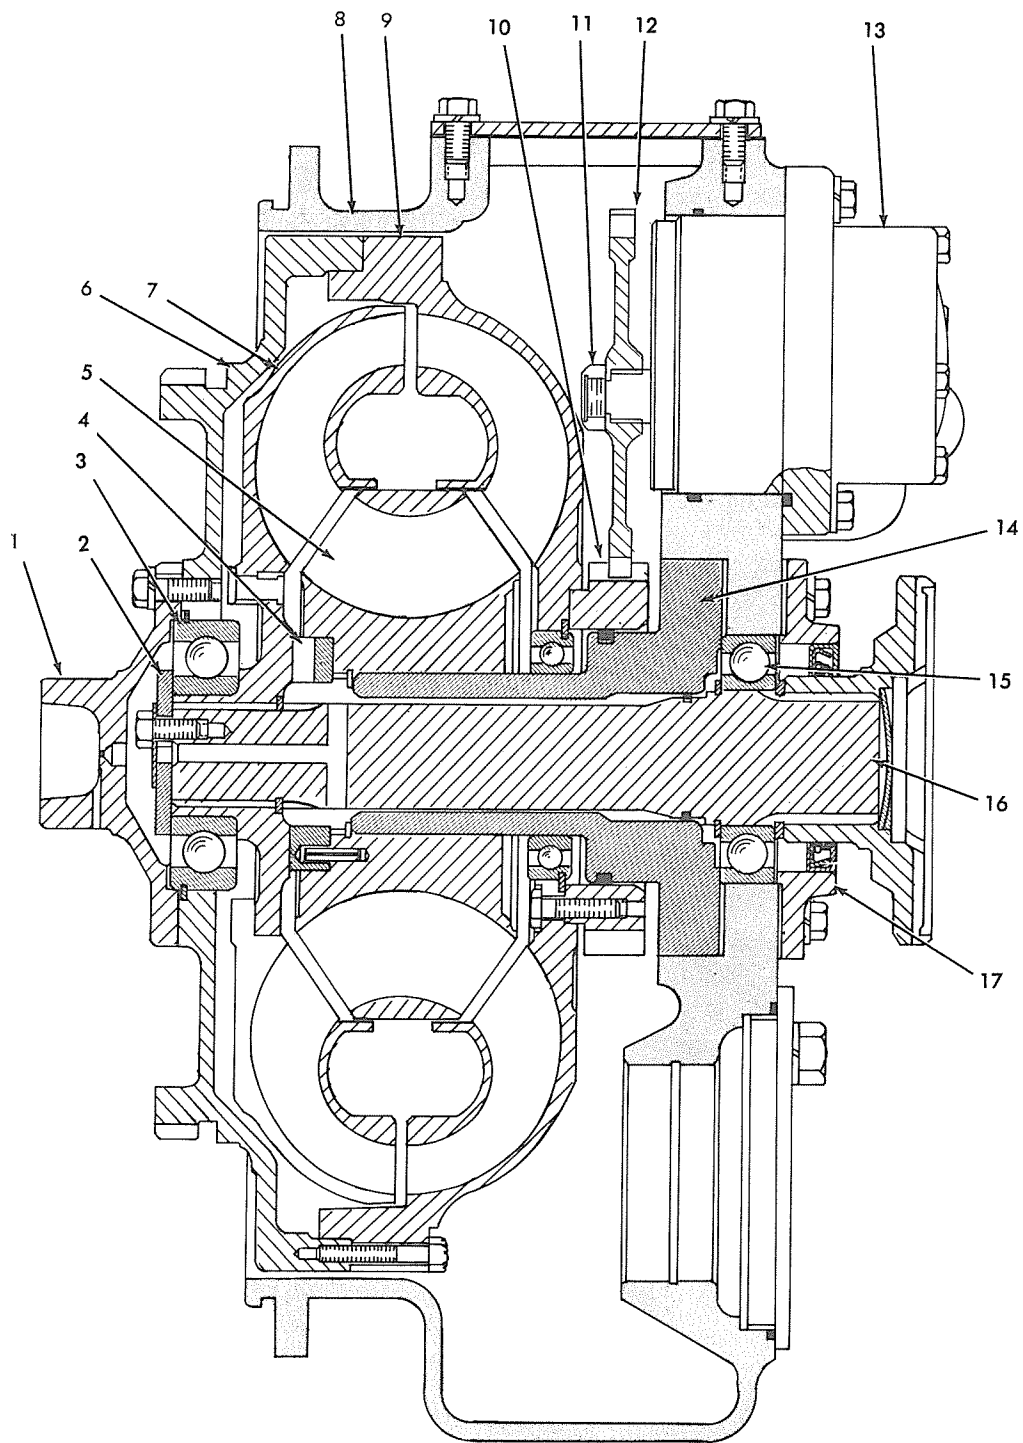
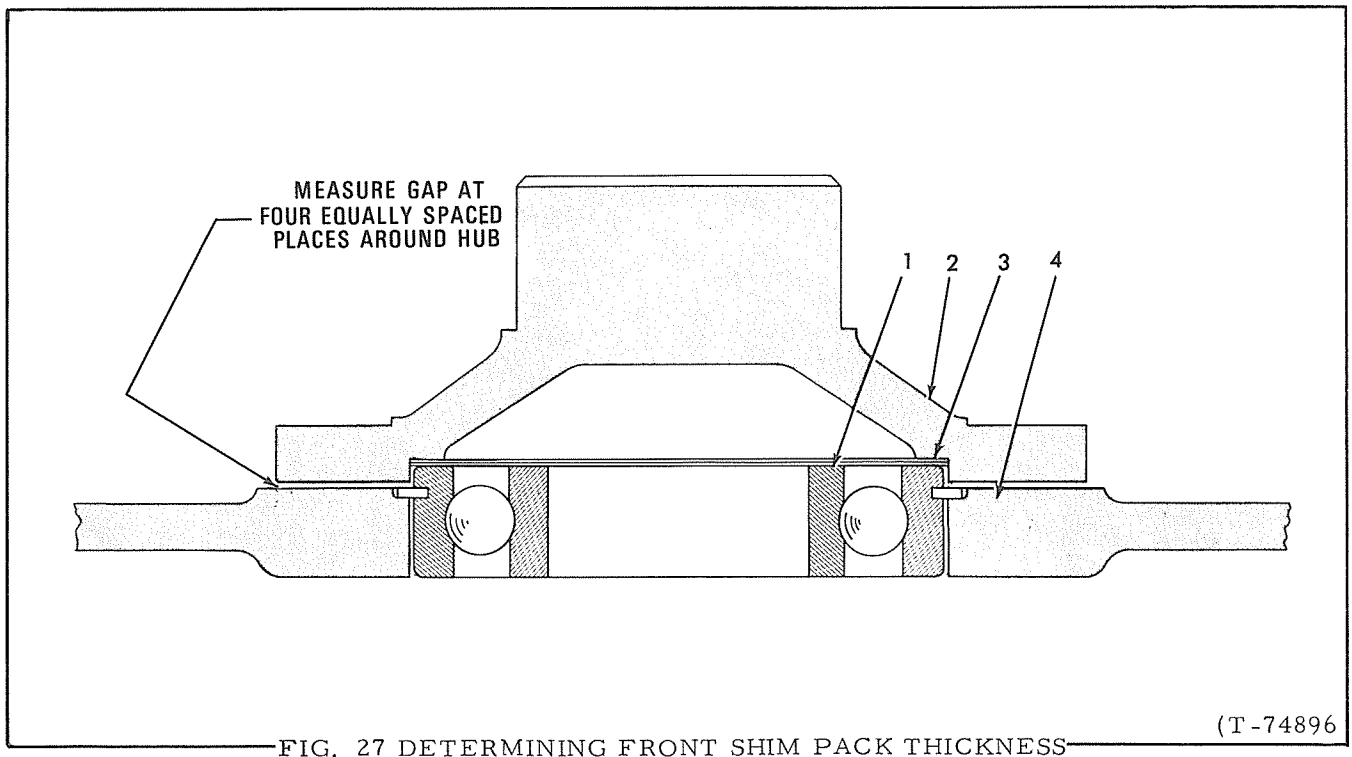

FIG. 22 TORQUE CONVERTER
FIG. 27 DETERMINING FRONT SHIM PACK THICKNESS
1. Remove capscrews and lift input hub, Fig. 22 (1) from rotating housing (6). Keep shims, Fig. 26 (2) intact and attach them to input hub for use during assembly.
2. Unlock and remove capscrews attaching end washer, Fig. 22 (2); remove washer.
5. Lift stator, Fig. 22 (5) and spacer (4) out of turbine; do not attempt to remove snap ring from stator bore unless it is damaged.
6. Use suitable driver to remove turbine hub from front bearing, Fig. 22 (3); tap bearing out front of rotating housing.
7. Remove and discard pump drive gear retaining nut, Fig. 22 (11); pull gear (12) from shaft. Remove capscrews attaching pump to converter housing; use 3" (76mm) long pusher screws to remove pump from housing.
8. Slide universal joint front yoke from output shaft; remove rear bearing retainer, Fig. 22 (17). Keep shims, Fig. 26 (25) intact and attach them to bearing retainer for use during assembly.
9. Tap front end of output shaft to remove it from housing. Remove both snap rings and press bearing, Fig. 22 (15) off rear end of shaft.
8. Install transmission pump drive gear, Fig. 22 (12), long hub toward pump. Install new gear retaining nut (11) and torque to 45 lbs. ft. (6.22 kg-m).
- a. Install front bearing, Fig. 22 (3) in rotating housing (6); seat bearing snap ring in counterbore. Place original shim pack, Fig. 27 (3) and input hub (2) on bearing.
- b. Hold input hub down firmly with hand pressure; measure gap between input hub and rotating housing, Fig. 27, at four equally spaced places. Add or remove shims (3) to obtain gap of .005" to .015" (0.127-0.381mm).